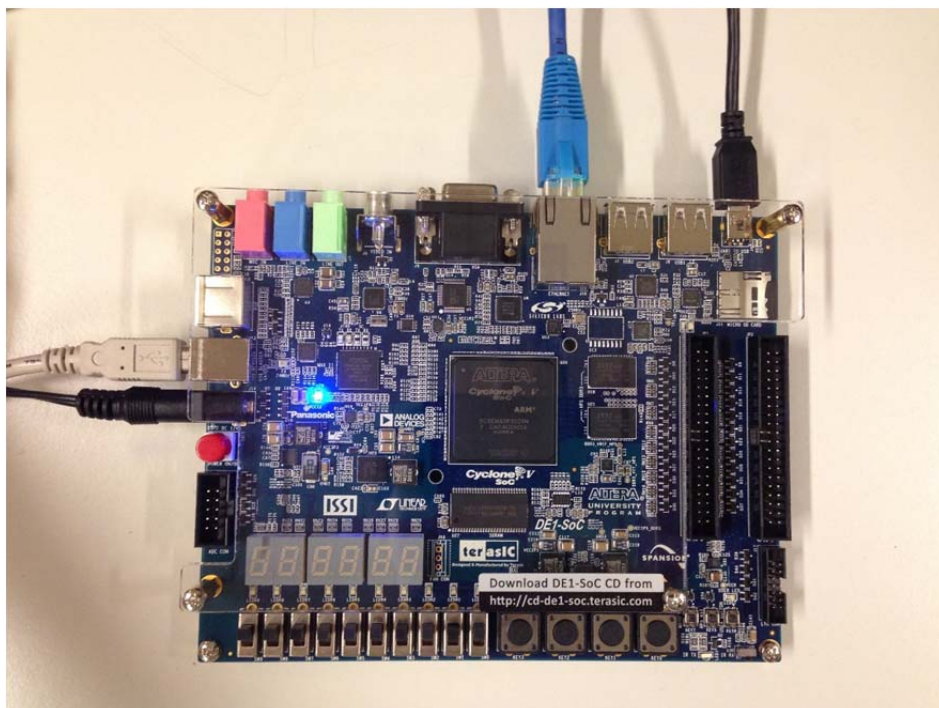

Fig. 46: DE1-SoC Wiring
2. Connect the DE1-SoC as shown in Fig. 46 :